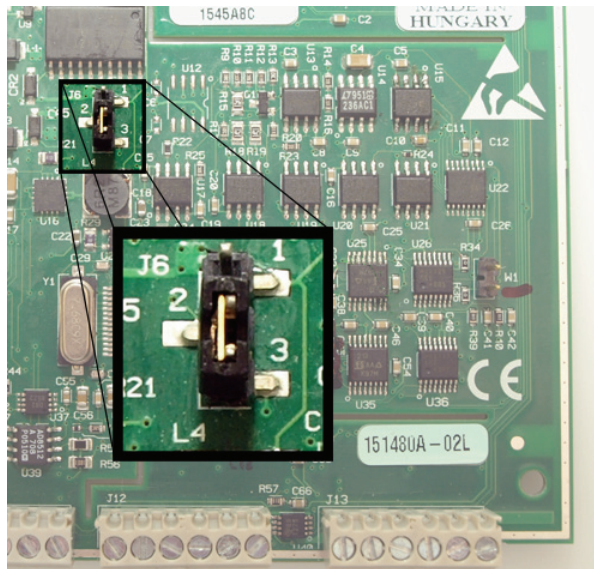

Figure 12. Location of J6 jumper
- Configure jumper **J6** for either pull-up, pins 1-2, or pull-down, pins 2-3. The jumper is configured by default for pull-up. Figure 12 shows the location of the jumper on the board.